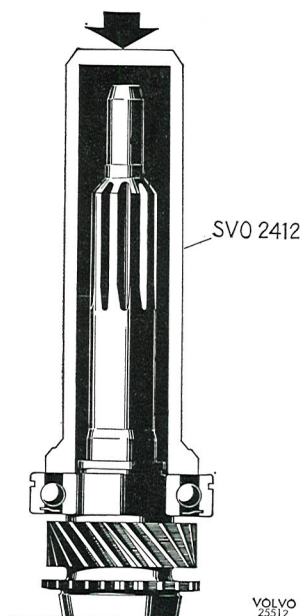

Fig. 4-40. Fitting ball bearing on input shaft
4. Press the bearing onto the input shaft with the help of drift SVO 2412, see Fig. 4-40. Select a circlip of suitable thickness and fit it. Place the 14 bearing rollers for the mainshaft in position in the input shaft. Use grease to hold the rollers in place. Press the input shaft into position in the housing. Press the oil seal into the cover with drift SVO 2867.